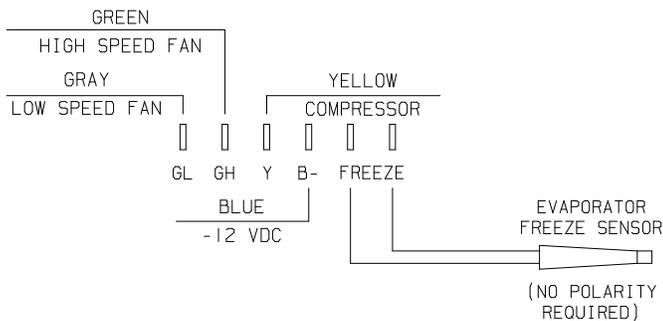

**FIGURE 1**
The supplied mounting frame is used to secure the upper unit to the roof per the following steps (See Figure 1).
- C. Proper tension has been achieved for each bolt when any portion of each gasket indicating tab has been pulled down even with the roof (See Figure 1). The upper unit has now been properly installed with optimum gasket compression.